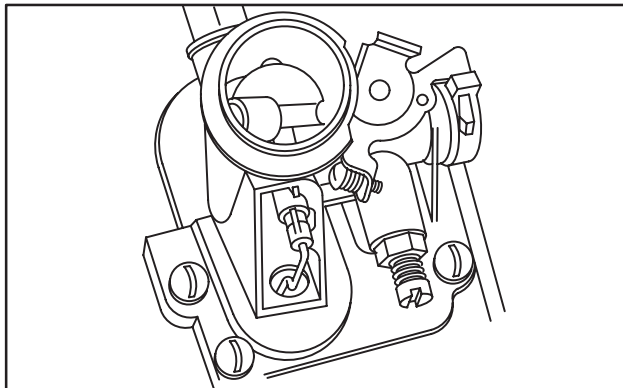

Fig. 245 – PRE-LOADING DIAPHRAGM
1. Move choke plate to an over center position as shown in Fig. 245.